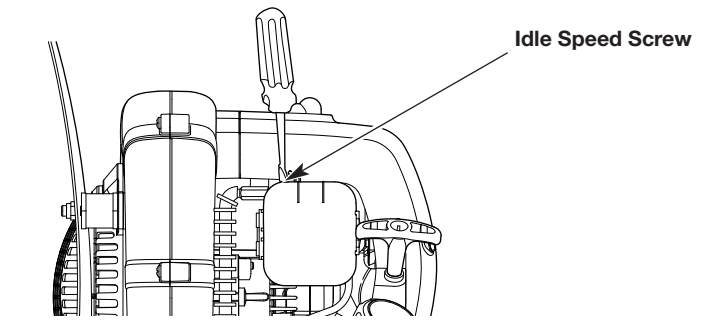

Fig. 14
- If the engine stops, use a small Phillips screwdriver to turn the idle speed screw clockwise, 1/8 of a turn at a time (as needed) until the engine idles smoothly (Fig. 14).
- If the engine idles too quickly, turn the idle speed screw counterclockwise, 1/8 of a turn at a time (as needed) to reduce the idle speed (Fig. 14).